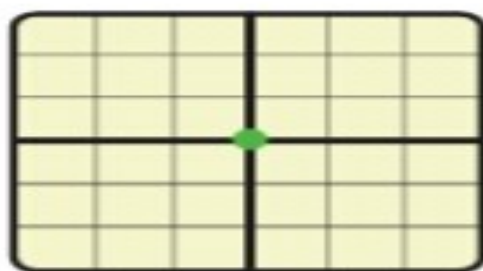

Figure 5.6a Time base off.
- ✓ If the time base is applied to a signals made by a direct current the trace change from dot (Figure 5.6a) to line (Figure 5.b)